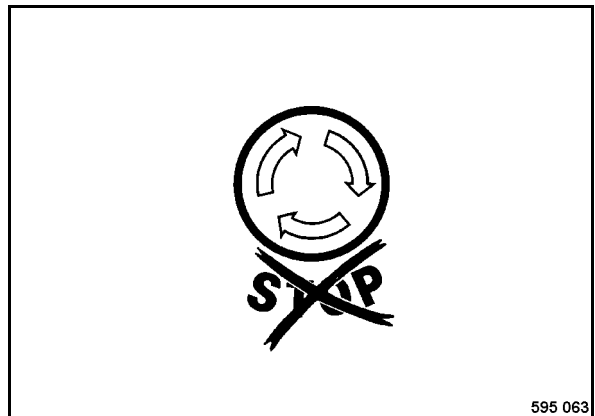

Fig. 39
- Check, whether the emergency stop switch (Fig. 39) is unlocked.